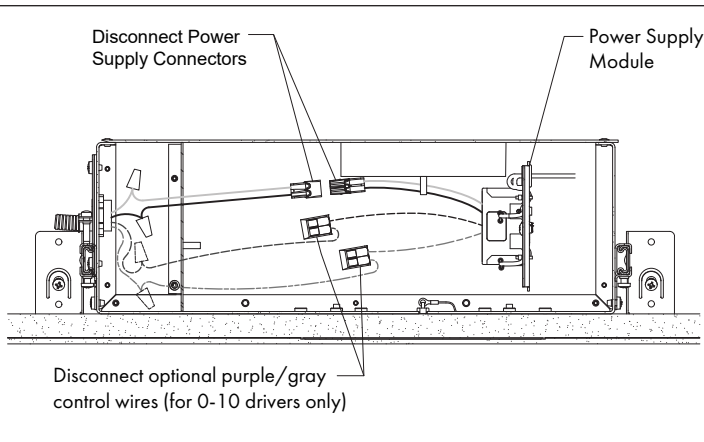

FIG 12.2 Remove Power Supply Module & disconnect wires
Step 3 Pull Power Supply Module away from threaded stud and pull wires & Power Connectors out of the Junction Box - **FIG 12.2**.
Step 4 Disconnect Power Supply Connectors. For models with 0-10 drivers, also disconnect purple & gray wires - **FIG 12.2**.